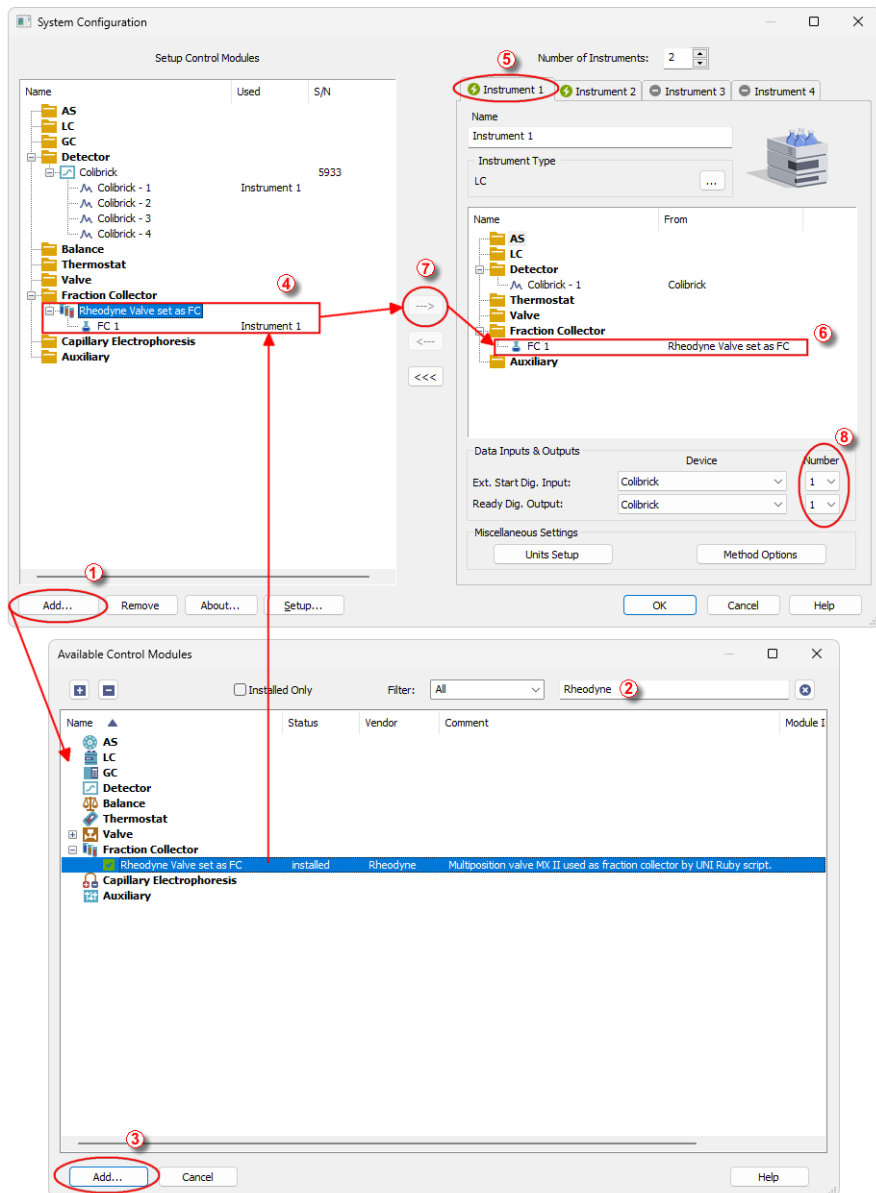

Fig. 2: How to add FC by Rheodyne Valve
- Press the *Add* button (① on Fig. 2 on pg. 4.) to invoke the *Available Control Modules* dialog.
- You can specify the search filter (②) to simplify the finding of the driver.
- Select the correct item and press the *Add* (③ on Fig. 2 on pg. 4.) button. Each device with already created UNI profile should have its own item named accordingly in the *Available Control Modules* dialog.